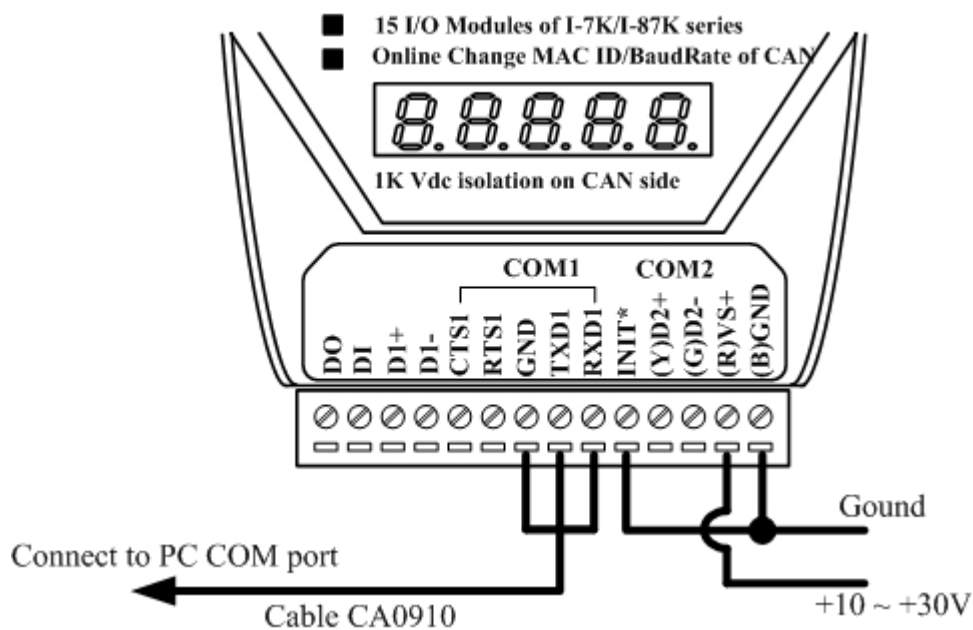

Fig 5-15. The wire connection of the i-7241D
Step 1. Turn off the i-7241D. Connect the INIT\* pin with the GND pin of the i-7241D as figure 5-15.